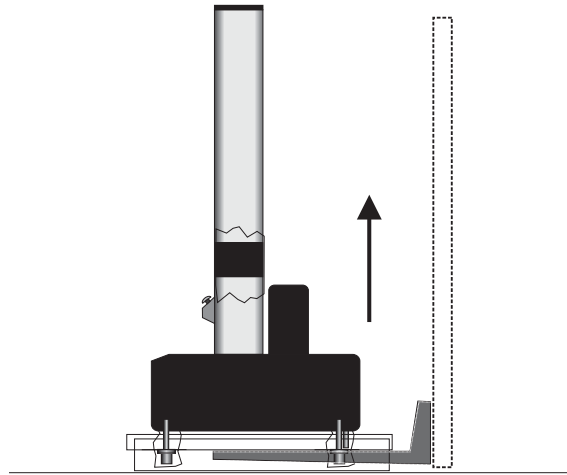

Figure 11. Lifting the Frame using the shipping skid
2. Carefully insert the forks under the shipping skid as shown in Figure 11 on page 60.